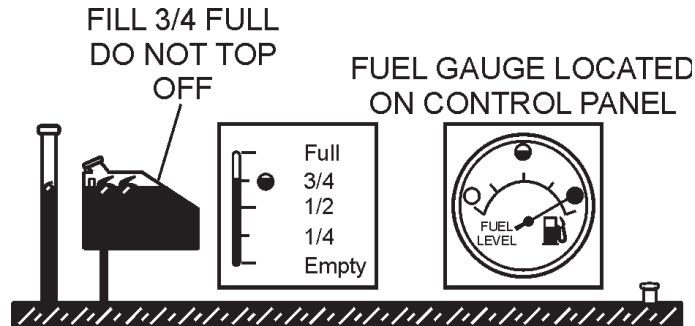

Figure 37. Full Fuel System
5. Figure 37 below reflects a full fuel system.